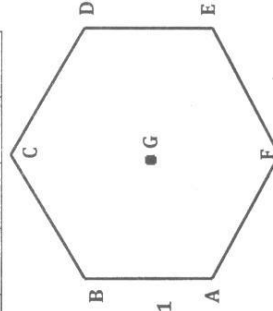

Figure 1
A. A river basin has an area in the form of a Hexagonal with each side of length 30 meter as shown in figure 1. The seven raingauge stations *A, B, C, D, E, F* and *G*, located at the corners and the center, have records 76, 83, 67, 92, 69, 90 and 78 mm of rainfall respectively. The meteorological data pertain to a large reservoir, within the basin and has a water-spread area equals 6% of the basin area, are as following. The data represent the average values for the day.